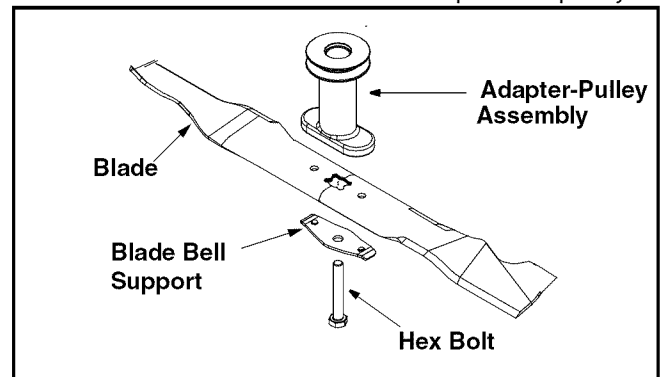

Figure 11
- Remove the hex bolt which holds the blade adapter-pulley assembly to the engine crankshaft. See Figure 11 . Remove the pulley assembly and the bell support from the crankshaft.